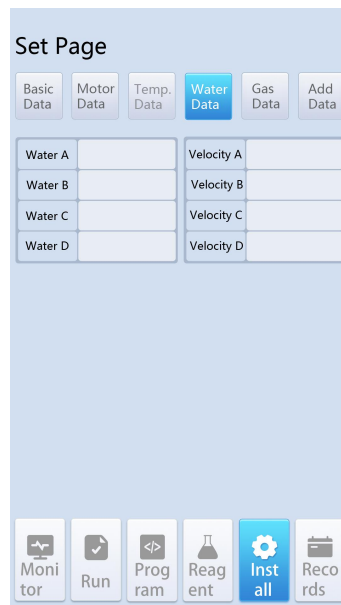

Figure 16 Pipeline operation interface
4. Flow water parameter: This interface is used to operate the flow water tank, as shown in Figure 16. The specific operation mode is as follows